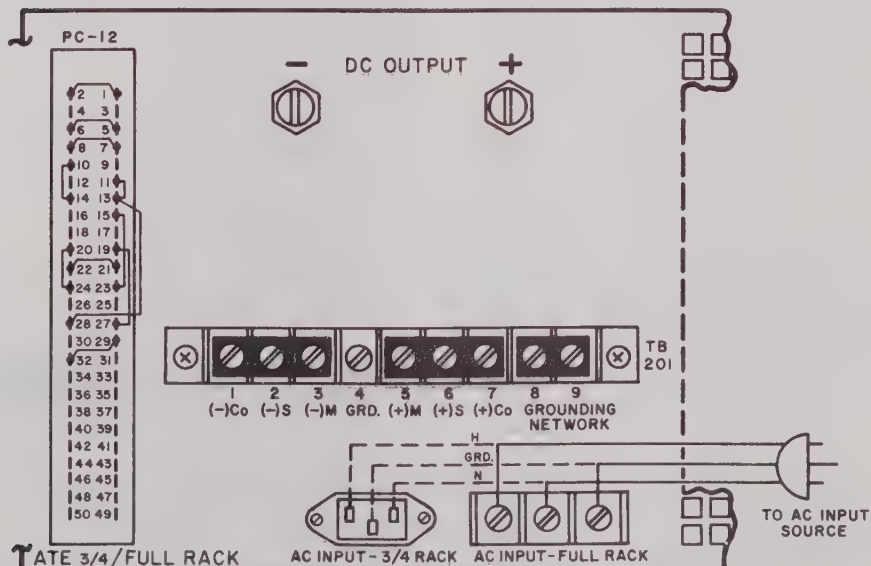

FIG. 3-2 STANDARD JUMPER LINK CONNECTIONS FOR LOCAL (FRONT PANEL) CONTROL OF THE OUTPUT VOLTAGE, OUTPUT CURRENT AND VP CROWBAR LEVEL (SLOW MODE).
- 3-18 (Refer to FIG. 3-2). The Kepco power supply is shipped from the factory with several jumper links, connected to the programming connector (PC-12) and to the barrier strip (TB210). These links may be removed and replaced at will, depending on the operating mode and application of the power supply. Positioned as shown in FIG. 3-2, the links are connected for front panel (local) control of the output voltage, output current and VP crowbar level with the power supply operating in the "slow" mode. ***Links remaining on the mating jack must be soldered, links on the barrier strip must be tightened.*** LOOSE WIRES OR LINKS AT THE BARRIER STRIP OR THE MATING JACK WILL CAUSE MALFUNCTION OF THE POWER SUPPLY.
Note: Connection diagrams in Section III are applicable for 3/4 rack and for full-rack ATE power supplies. These diagrams represent partial views of the ATE rear panel. The AC source input (socket and line-cord for 3/4 rack ATE models, barrier strip with wired line-cord and cover for full-rack ATE models, as shown in FIG. 3-2) will be deleted on all further diagrams to simplify the presentation.